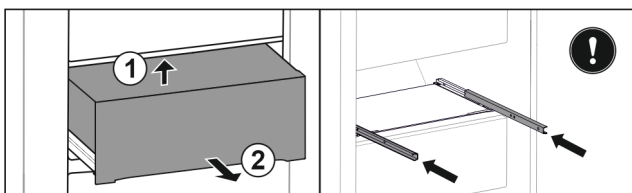

Fig. 100
- Lift drawer from below at the back. Fig. 100 (1)
- Remove drawer to the front. Fig. 100 (2)